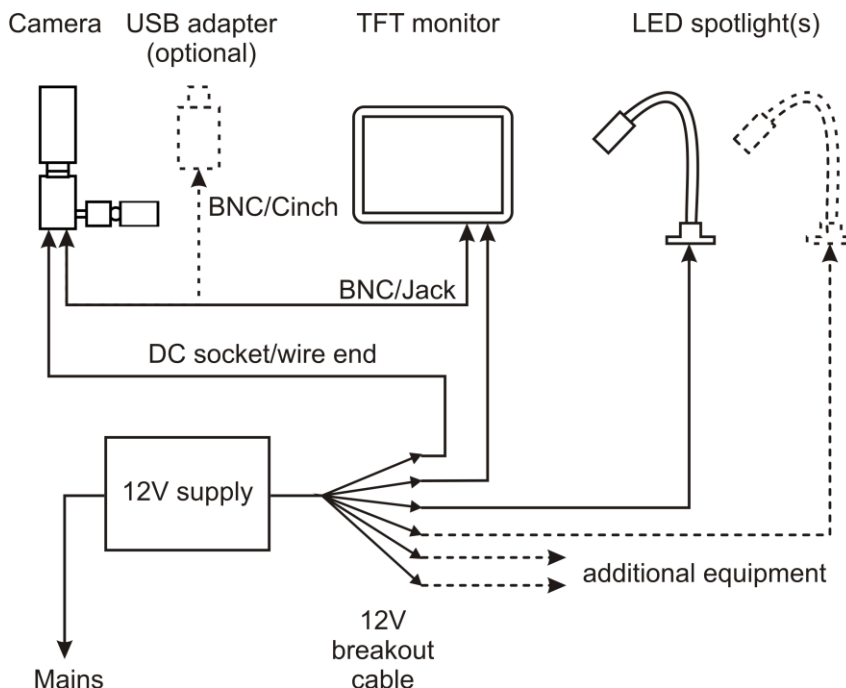

Figure 18. Wiring of CCD camera and LED spotlight. Depending on your system configuration there may be one or two LED spotlights.
2. Grasp the tag of a sample plate (e.g. from the manipulator) with the wobble stick and slip it sideways into the entry slot, see figure 18. For direct heating, radiative